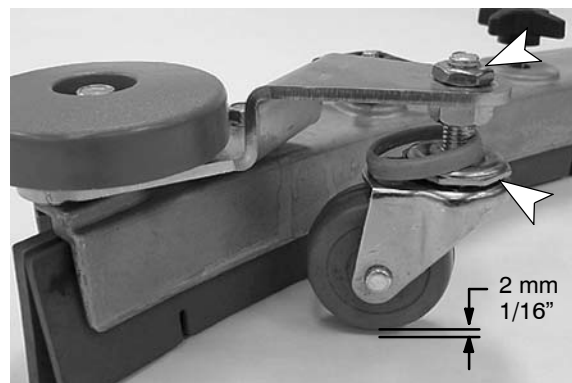

FIG. 53
- To check the squeegee assembly for proper adjustment, remove the squeegee assembly from the machine and place it on a level surface. Measure the distance between the caster and the surface. It should measure approximately 2 mm (1/16") (Figure 53).
- To adjust the caster height, loosen the top nut and remove the plastic bearing cover to access the adjustment nut. Turn the adjustment nut until properly adjusted (Figure 53). After adjusting, tighten the top nut and replace the plastic bearing cover. Repeat step for the other caster.